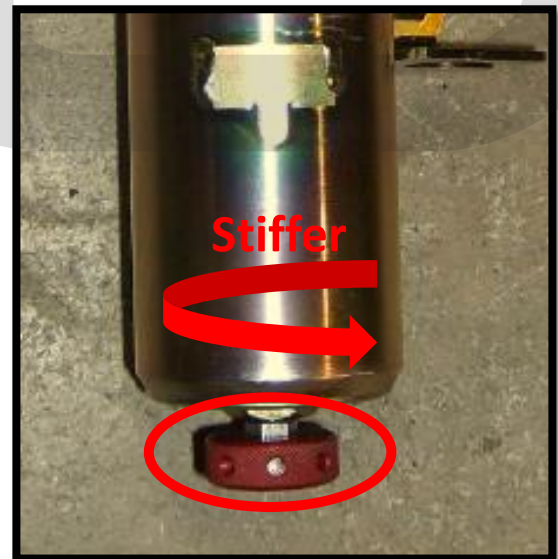

Figure 10b
- b) **Adjust the dampening in the rear to desired levels.** Starting soft and moving up is generally the easiest way to tell difference (rear shown in **Figure 10b**).